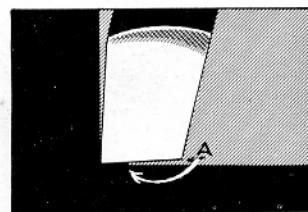

FIG. 326
20. Feed the work slowly away from the tool by hand so that the surface in the corner merges with the horizontal surface. When the tool is fed down, the slight angle at which the lower surface of the tool has been set is duplicated on the horizontal surface in the corner (Fig. 326). Consequently, point (A) is slightly higher than the remainder of the horizontal surface. It is for the purpose of removing this point that the work is fed away from the tool slowly after the tool has reached the horizontal surface (Fig. 327).